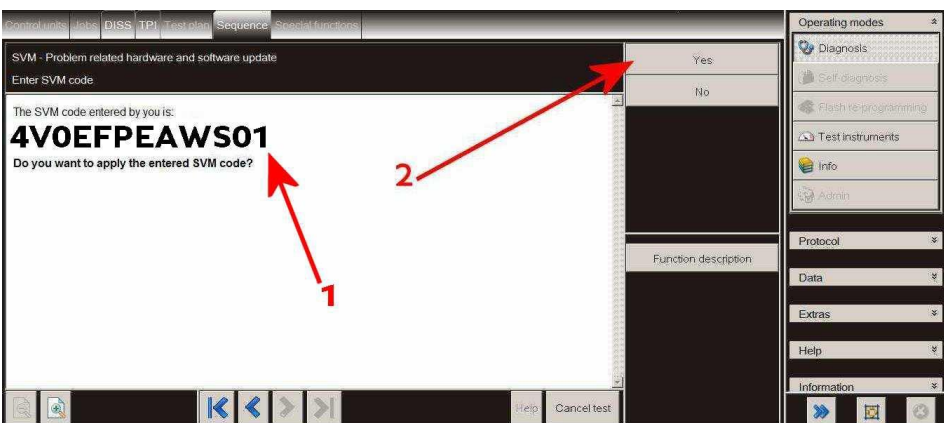

Figure 4
- Referring to Figure 4, Check you have entered the correct SVM code (1) and select Yes (2) and follow all on screen prompts